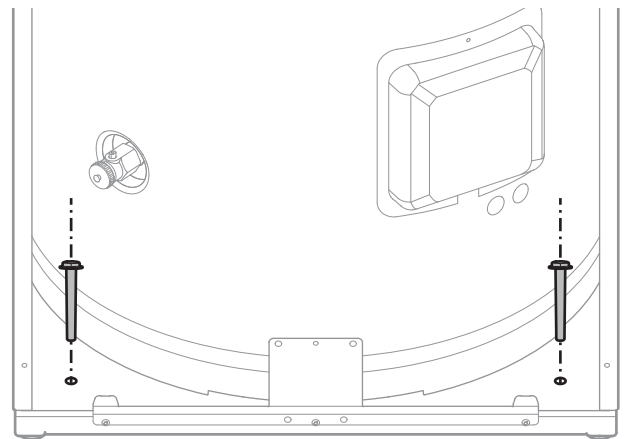

fig. 18 - Floor fixing
- Fix the hydraulic module to the ground (attachment not supplied) (*fig. 18*).